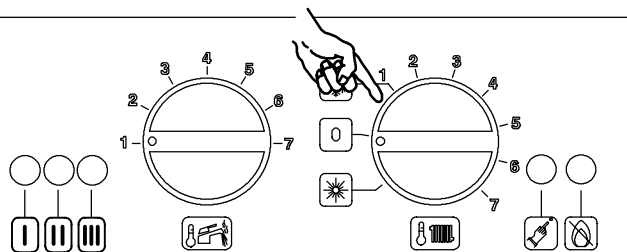

Fig. 60
- 1 Set the function selector of the boiler in stand-by mode (Fig. 60).